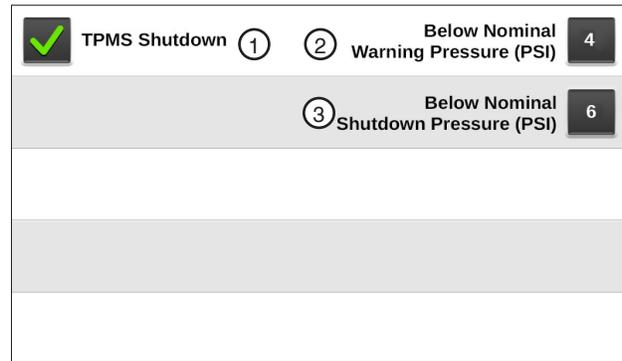

Figure 84-1 TPMS Constants Screen
The TPMS Constants screen is used to set the following constants (refer to Figure 84-1):
The system can be set to shut down if tire pressure falls below a set amount. Refer to Figure 84-1.
2. Using the numeric keypad, enter the pressure value for the pressure drop warning. Refer to Figure 84-1.